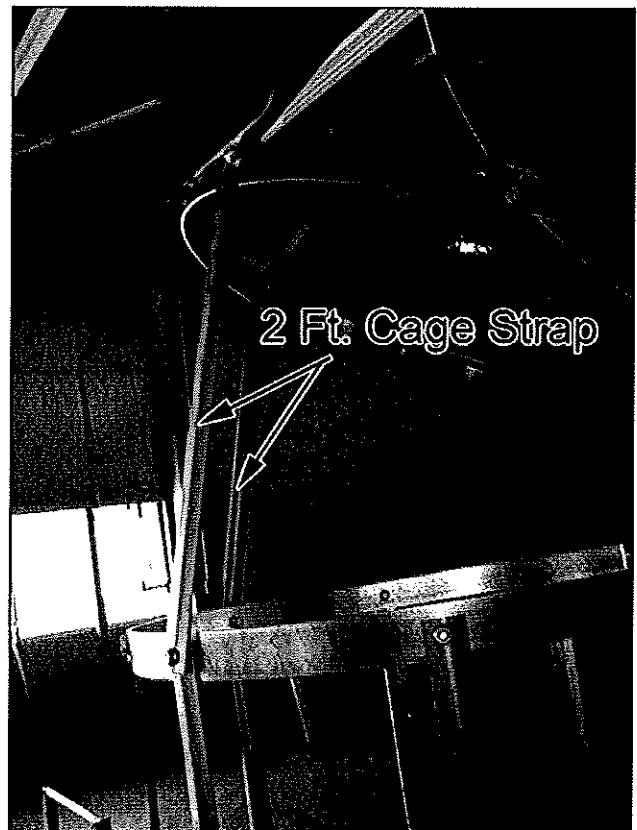

Figure 23
- The distance between the ladders is enclosed with (4) 2' cage straps and (1) cage hoop. **See Figure 23.** The safety cage hoop is bolted to the ladder connecting brackets. One end of a connecting strap has a 30° bend that is bolted to the lower loop. Two (2) connecting straps connect up to the roof ladder cage and (2) connect down to the top section ladder cage. All connecting straps will share a 5/16-18 x 1" bolt with a hoop and ladder strap.